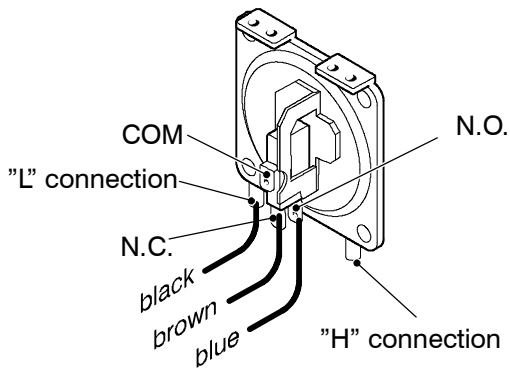
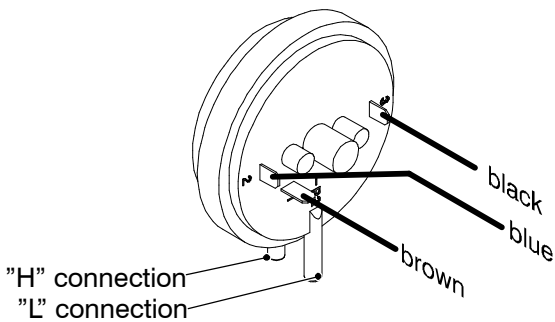
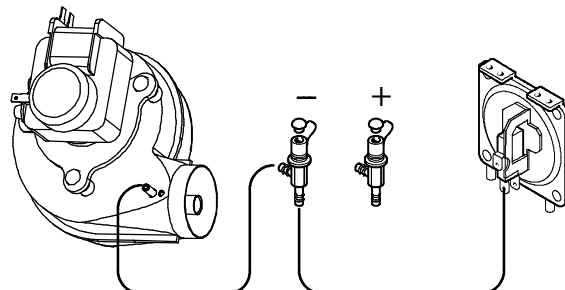

Fig. 70a
Fig. 70b
Fig. 73
- 2 Disconnect the wires and check the electrical resistance between the connections of the Air pressure switch. Refer to the Fig. 70a or b in accordance with the type of air pressure switch used.
Warning: to correctly connect the venturi device to the Air pressure switch, refer to Fig. 73.
Warning: to correctly connect the Air pressure switch, refer to Fig. 73 and Fig. 70a or Fig. 70b for the correct wiring.